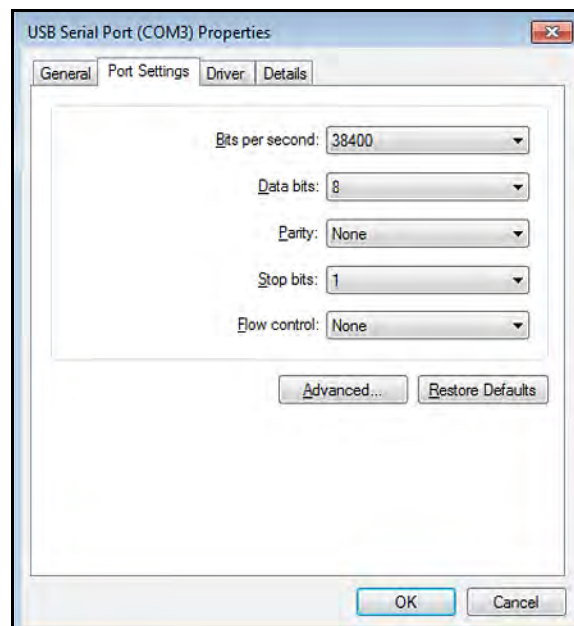

Figure 2: USB Serial Port Properties
6. Open the USB serial port settings window (see *Figure 2* below) and match those listed in the **PT878\Meter\Communications** window at the **PT878 User Interface**. Note that the COM port settings may vary with the PC configuration.